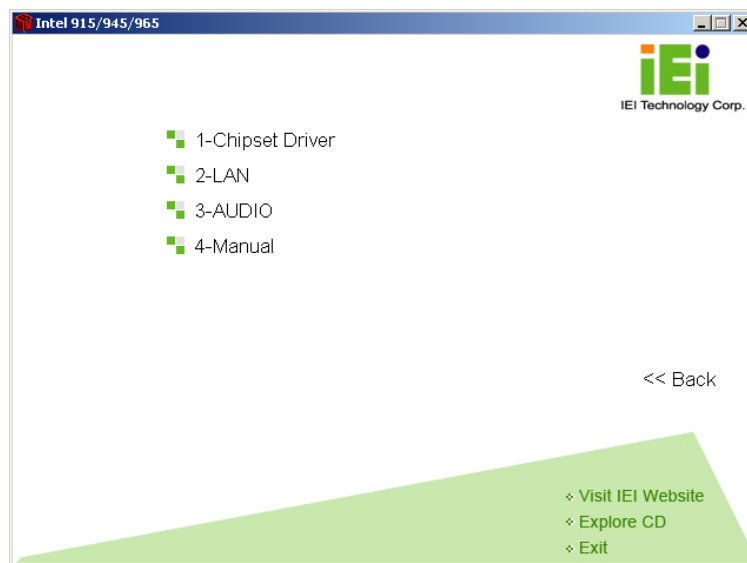

Figure 7-2: Available Drivers
Step 4: A new screen with a list of available drivers appears (Figure 7-2).
Step 5: Select the driver to install from the list in **Figure 7-2**. Detailed driver installation instructions follow below.
Step 1: Select **Chipset** from the list in **Figure 7-2**.
Step 1: Select **AUDIO** from the list in **Figure 7-2**.